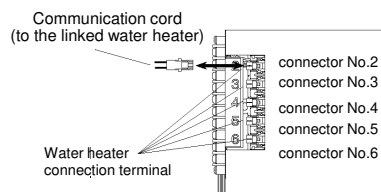

Figure 2: Water heater connection terminal
- * Disconnect all communication cords from the water heater connection terminals (Figure 2).